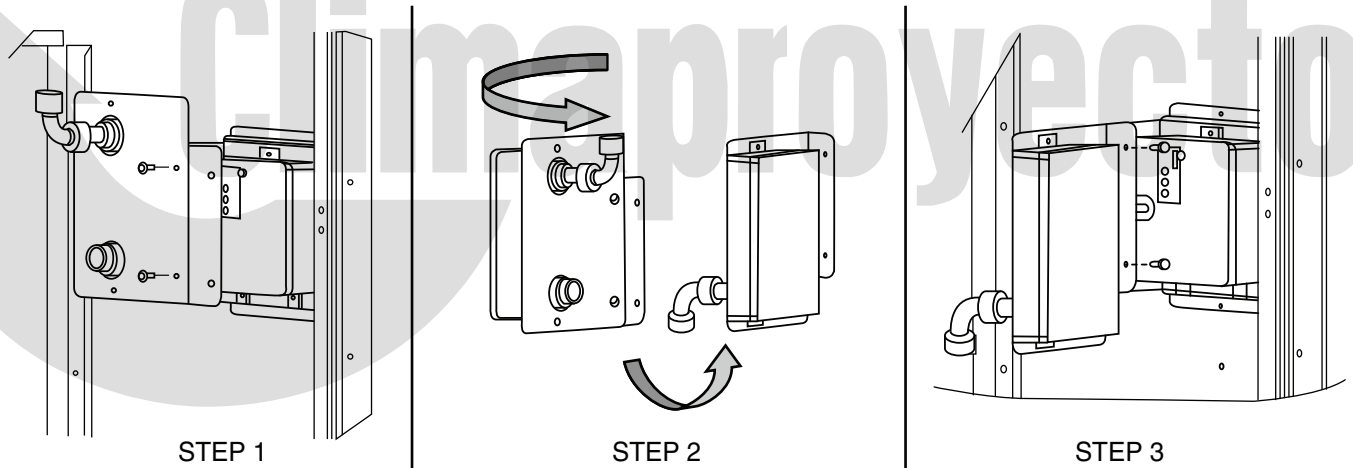

Fig. 53 — Completing Installation of Return Air Smoke Sensor
1. Unscrew the two screws holding the return-air smoke detector assembly. See Fig. 53, Step 1.
3. Turn the assembly 90 degrees and then rotate end to end. Make sure that the elbow fitting is pointing down. See Fig. 53, Step 2.
4. Screw the sensor and detector plate into its operating position using screws from Step 1. See Fig. 53, Step 3.